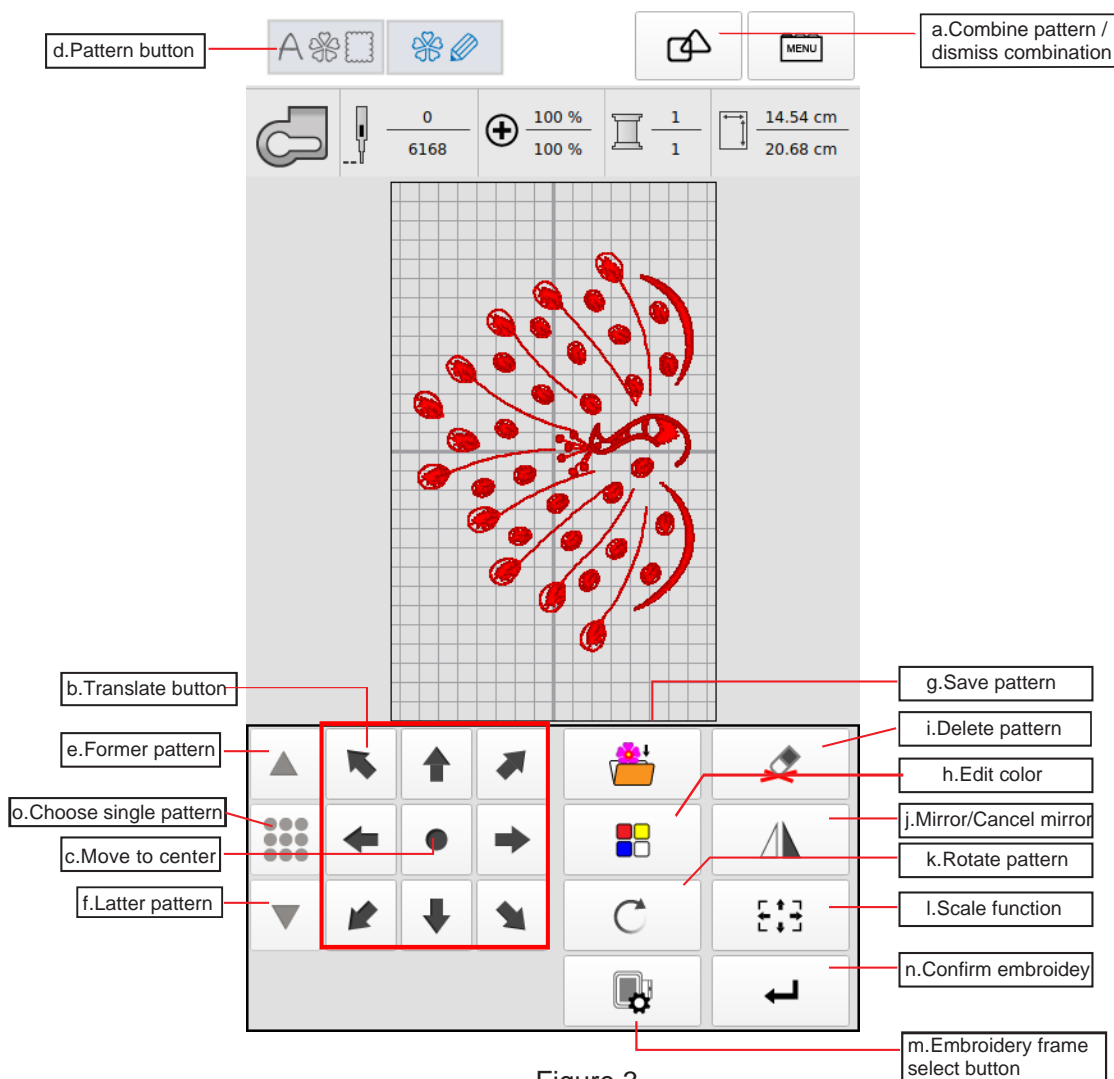

Figure 3
(4) Click the pattern editing button to enter the interface in Figure 3
(5) User can translate, rotate, mirror, scale and simulate the selected pattern by needs, and then select embroidery frames suit the size of the pattern, then install the embroidery frames of selected size, as shown in Figure a